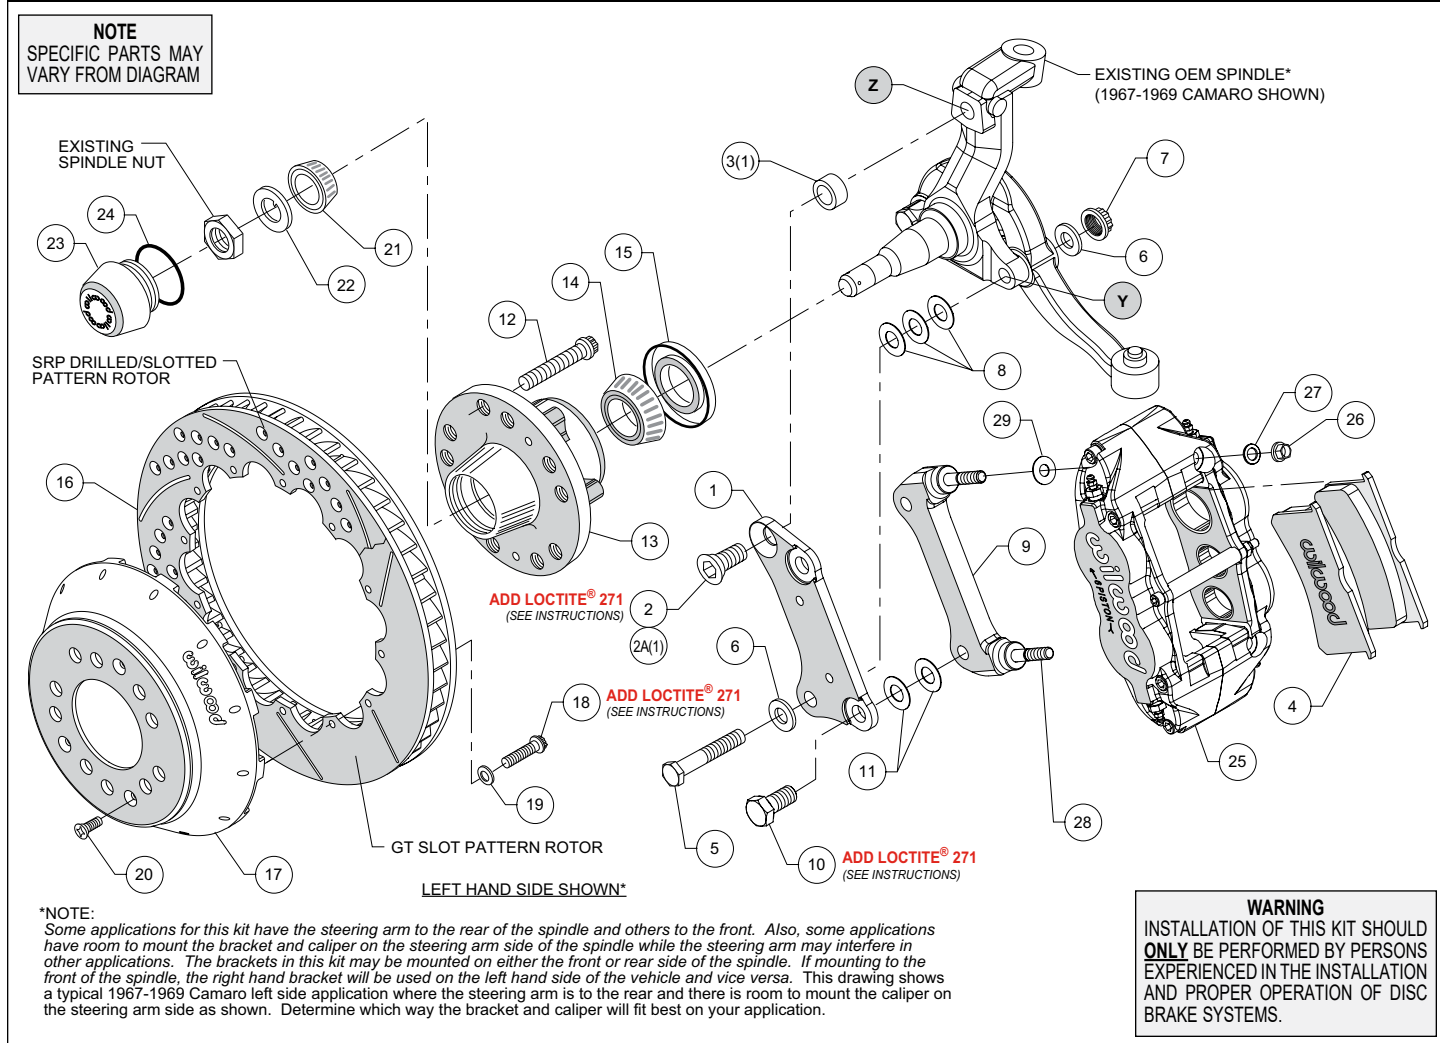
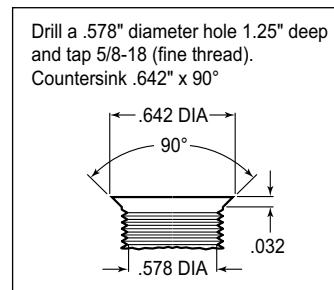
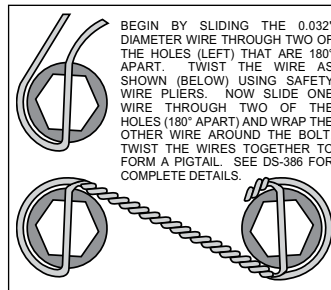

Figure 1. Typical Installation Configuration
Figure 3. Drill and Tap Detail
Figure 4. Safety Wire Diagram
NOTE: Numbers in parenthesis refer to the parts list and Figure 1 on the preceding pages.
- NOTE:** Some applications for this kit have the steering arm to the rear of the spindle and others to the front. Also, some applications have room to mount the bracket and caliper on the steering arm side of the spindle while the steering arm may interfere in other applications. The brackets in this kit may be mounted on either the front or rear side of the spindle. If mounting to the front of the spindle, the right hand bracket will be used on the left hand side of the vehicle and vice versa. Figure 1 shows a typical 1967-1969 Camaro left side application where the steering arm is to the rear and there is room to mount the caliper on the steering arm side as shown. Determine which way the bracket and caliper will fit best on your application.
- NOTE:** Some spindles in this year range may require the following modifications (reference Figure 1 and Figure 3): Top anchor pin hole (Z) must be drilled and tapped to the dimensions as outlined in Figure 3. The lower bolt hole (Y) in the spindle used to mount the new caliper bracket, and the mating steering arm hole, must be enlarged to .50" by drilling. It is recommended these modifications be performed by a qualified machinist.
- Install wheel studs (12) into the hub (13), Photo 1. Torque to 77 ft-lb. **NOTE:** There are two five lug patterns in the hub (5 x 4.50 and 5 x 4.75). Make sure of the correct hole pattern for the correct wheel application before installing studs into hub.
- Pack the large inner bearing cone (14) with high temperature disc brake bearing grease (available from your local auto parts store) and install into the backside of the hub (13).
- Install the grease seal (15) by pressing into the backside of the hub (13), Photo 2.
- Orient the rotor (16) and the hat (17) as shown in Figure 1 and Photo 3. Attach rotor to hat using bolts (18) and washers (19). Using an alternating sequence, apply red *Loctite*® 271 to the threads, and torque to 155 in-lbs. For an added measure of security, the bolts may be safety wired using standard 0.032 inch diameter stainless steel safety wire as shown in Figure 4. Please refer to Wilwood's data sheet DS-386 (available at www.wilwood.com/Pdf/DataSheets/ds386.pdf) for complete safety wire installation instructions.
•**Disc Brake Spindle Application Only:** Follow the instructions below, but instead use bolt (2A), and spacer (3) in the upper bolt hole location, Figure 1.
•Orient the flat bracket (1) as shown in Figure 1 and Photo 4, and install using bottom bolt (5), washers (6), and nut (7), Figure 1. Initially place three .032" thick shims (8) between the bracket and spindle. Install the upper bolt (2 or 2A). Temporarily tighten bolts. **NOTE:** *The bracket must fit squarely against the mounting surfaces on the spindle.* Inspect for interference from casting irregularities, machining ridges, burrs, etc. Temporarily install the new hub, hat and rotor assembly. Check that the bracket is aligned parallel to the rotor, Photo 5. If not, adjust by adding or subtracting shims (8) on the lower bolt between the bracket and spindle, Figure 1. Once the bracket alignment is correct, remove the upper bolt (2 or 2A), apply red *Loctite*[®] 271 to the bolt threads, and torque to 120 ft-lb. Torque the lower lock nut to 65 ft-lb.
•The radial mount caliper bracket (9) should initially be installed with clean, dry threads on the mounting bolts. Orient the bracket as shown in Figure 1 and Photo 6, and install using bolts (10). Initially place two .029 thick shims (11) on each bolt between the two brackets, Figure 1. Temporarily tighten the mounting bolts. Later, after the caliper alignment has been checked, the mount bolts will be secured using red *Loctite*[®] 271.
•Pack the small outer bearing cone (21) with high temperature disc brake bearing grease and install into hub (13). Final install the hub assembly onto the spindle. Secure using spindle washer (22) and OEM spindle nut, Photo 7. Adjust bearings per OEM specifications. Install saved OEM nut lock (if any) and a new cotter pin (not included).
•Screw dust cap (23) into hub (13). Friction created by the o-ring (24) on the dust cap keeps it from unscrewing. **NOTE:** *The O.D. of the existing OEM spindle washer may be larger than the I.D. of the dust cap not allowing it to seat against the hub face. Therefore, use the spindle washer (22) supplied with the kit instead of the OEM washer.*
•Final install the rotor (16 and 17) assembly onto the hub (13), taking care to align the small countersunk holes in the hat with the small threaded holes in the hub. **NOTE:** *The hat must fit flush against the hub face or excessive rotor run out may result.* Install three flat head screws (20) through the small holes in the hat (17), Photo 8, and torque to 85 in-lb.
•**NOTE:** *This kit contains distinct right and left hand calipers that must be mounted in a specific direction, as described below.* Initially place one .035" thick shim (29) on each stud (28) between the caliper and the bracket, as shown in Figure 1 and Photo 9. Mount the caliper (25) onto the bracket (9) using lock nuts (26) and washers (27), Figure 1. Ensure that the caliper is mounted so the largest pistons are at the rotor exit end of the caliper, in relation to the direction of rotor rotation. Temporarily tighten the lock nuts. The rotor should be centered in the caliper, Photo 10. If not, adjust by adding or subtracting shims (11) between the flat bracket (1) and the caliper bracket (9). Always use the same amount of shims on each of the two mounting bolts. Once the caliper alignment is correct, remove the bracket mounting bolts one at a time, apply red *Loctite*[®] 271 to the threads, and torque to 77 ft-lb.